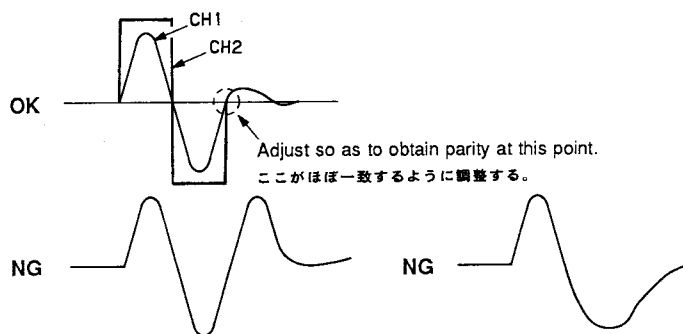

Fig. 6
- ③ Select Mode 5 (ref. page 14).
- ④ Select the spindle Mode 03 (CD mode, ref. page 15) then push PAUSE (KICK HOLD mode).
- ⑤ Adjust VR306 until the waveform at TP314 matches the waveform as shown in figure 6.
- ⑥ Press PLAY button to cancel KICK HOLD mode.
- Note: To obtain the waveform shown in the picture on the oscilloscope; (1) set the trigger selector to CH2 (Channel 2 triggering), (2) set the trigger mode to the normal trigger mode (3) adjust the trigger level so that the waveform of CH2 coincides with CH1's waveform (see Waveform Photo 9).
- ④ VR306にてFig. 6 の様な波形になるように調整する。
- ⑤ PLAY KEYを押してKICK HOLDを解除する。